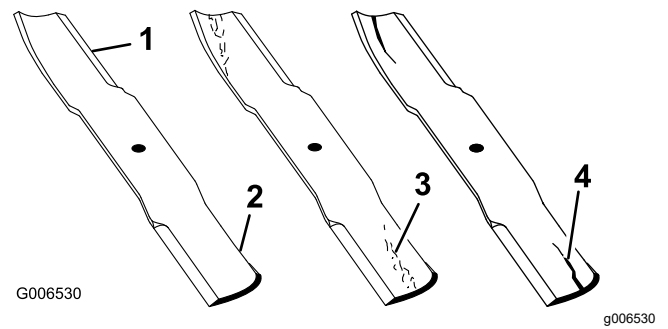

Figure 78
1. Inspect the cutting edges (Figure 78).
4. If you notice any cracks, wear, or a slot forming in this area, immediately install a new blade (Figure 78).